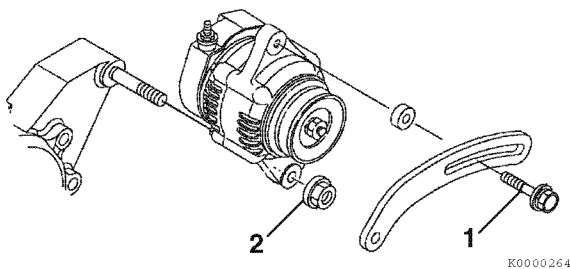

Figure 11-4
3. Remove the V-belt adjuster from the alternator bolt (1, Figure 11-4).
4. Remove the nut (2, Figure 11-4) from the gear case stud. Remove the alternator.